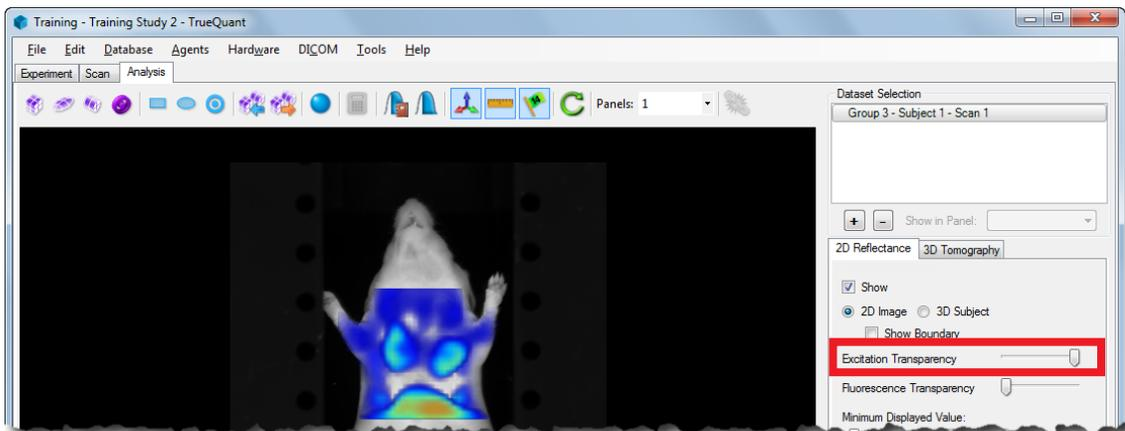
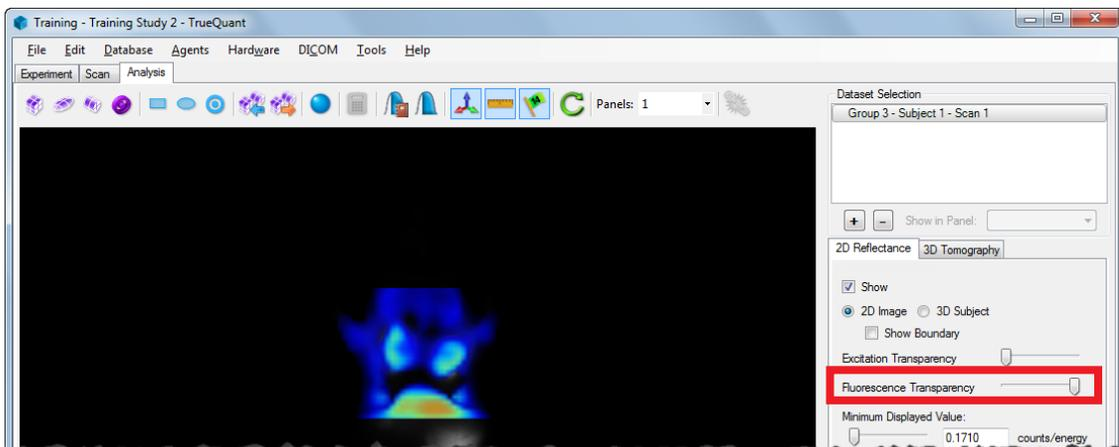

Figure 7-17. Setting the slider to show the excitation reflectance image at a maximum and fluorescence reflectance image at a minimum.
Figure 7-18. Setting the slider to show the fluorescence reflectance image at a maximum and the excitation reflectance image at a minimum.
- Transparency settings for either excitation or fluorescence reflectance images: Figure 7-17 and Figure 7-18 show the extreme examples of using maximum settings on the excitation and fluorescence reflectance images respectively.